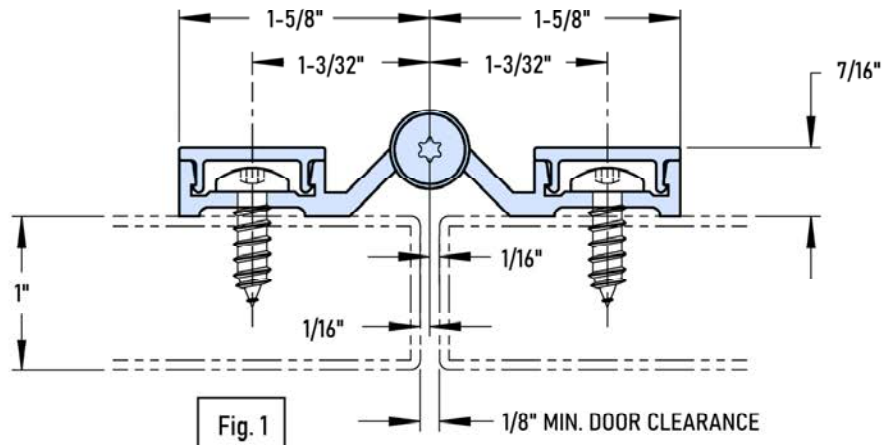

Fig. 1
- A. Place the hinge on partition door as shown (Fig. 1). Be sure the hinge is properly aligned with the top of the door. Measure from the edge of the door to hinge at both the top and bottom to ensure that the hinge is located squarely on the door (Fig. 2).